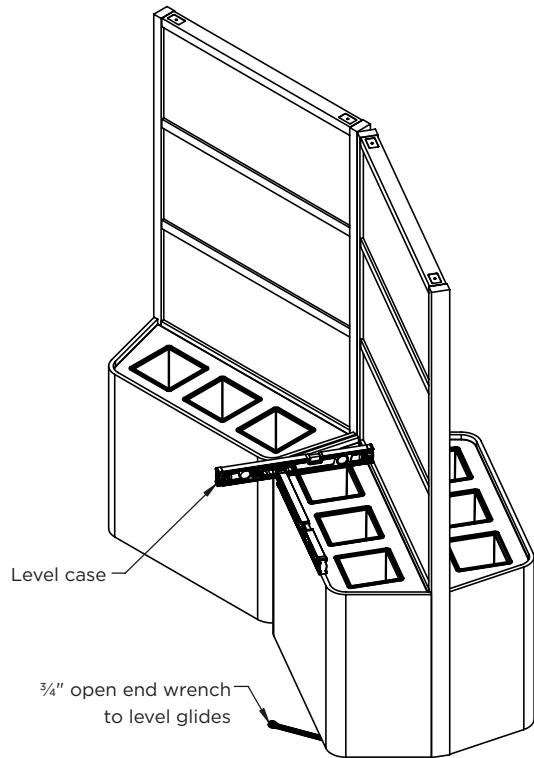

Figure 5D
**Note:** Reference **Figure 5D** for 90" h to 90" h planters and **Figure 5E** for 90" h to 72" h planters